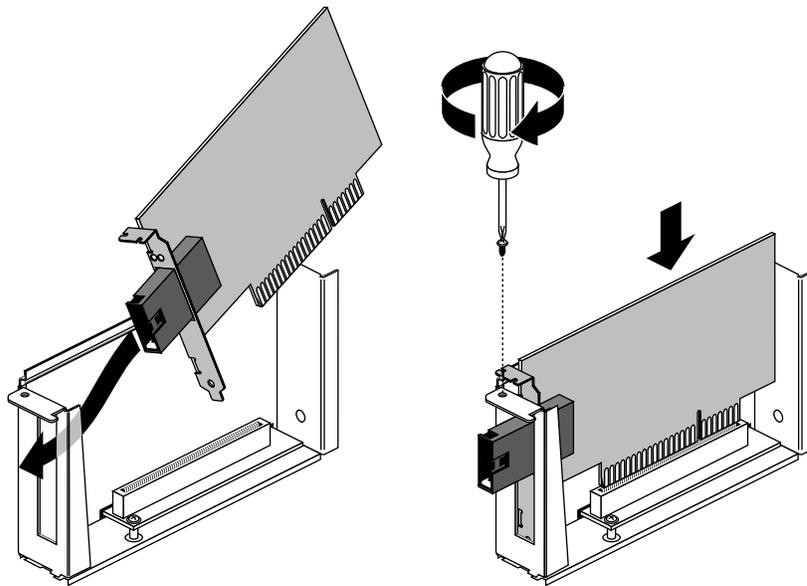

Figure 1 Installing the FDDIXpress Board in the PCI Tray
5. Push down slightly on the PCI tray close to the rear I/O panel and lift it from the system module. Figure 1 shows the PCI tray viewed from the side.